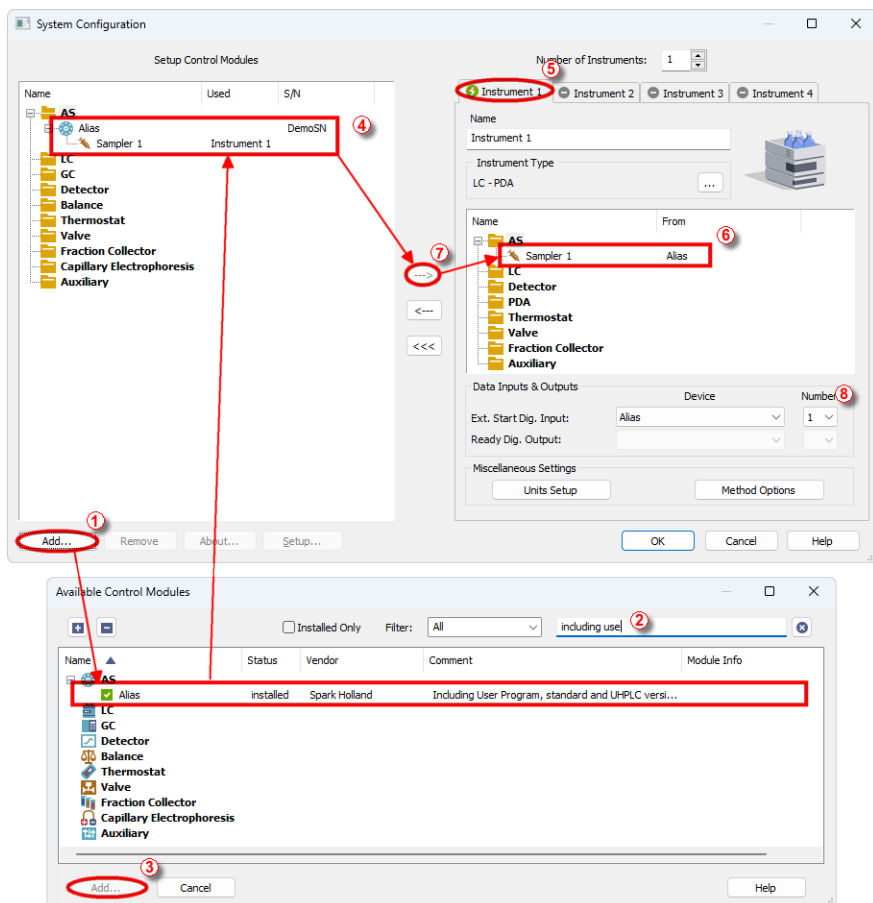

Fig. 4: System Configuration
- Press the **Add** button ① (see Fig. 4 on pg. 7.) to invoke the **Available Control Modules** dialog.
- You can specify the searching filter ② to simplify the finding of the driver.
- Select the **Alias** sampler and press the **Add** ③ button.